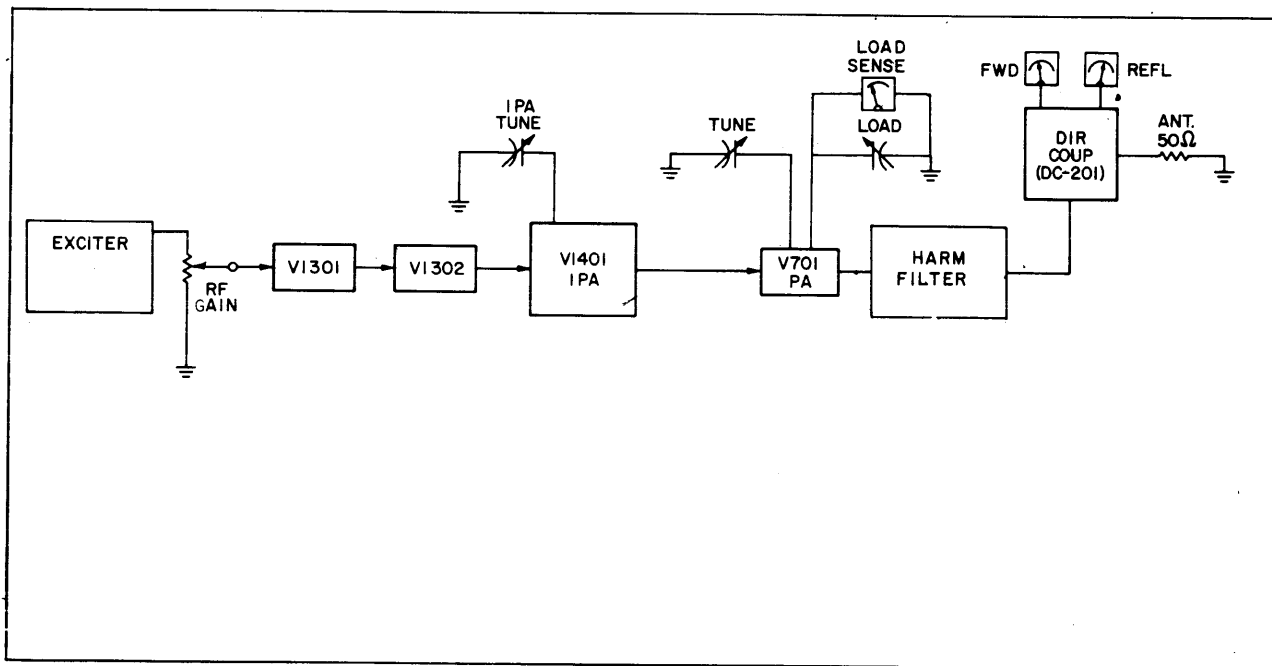

Figure 4-1. Block Diagram
a. Block Diagram Description (Refer to figure 4-1) - Figure 4-1 shows the path of the rf signal from an exciter routed through the amplifier stages, the harmonic filter, output metering circuits and finally to the 50 ohm transmitting antenna or dummy load. Tuning capacitors are used to resonate the intermediate power amplifier and power amplifier stages.
- (1) System Block Diagram (Section 4, Figure 4-1)